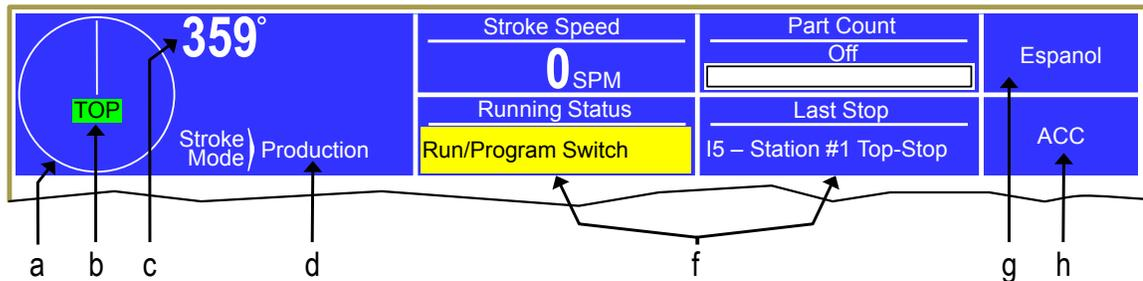

Figure 6: Operator Terminal Top Info Area
The top area of the operator terminal is used to display certain critical information and provide keys that are present regardless of what screen is being displayed. The areas are (refer to Figure 6):
- a) Graphical Display of Crankshaft Angle** For speeds below 70 SPM or so, this will show the crankshaft angle in either a “clock” format (this is the mode shown in Figure 6) or a “traveling dot” format. Press the screen inside the circle to switch between the formats (this can be done at any time, including while the press is in motion). Above 70 SPM, this will change to rotating arrows to indicate crankshaft motion.
Areas inside the white portion of the display are shown with a blue border if that area can be selected. For example, pressing the blue bordered jobs area or the blue bordered counters area will take you to screens related to jobs or counters, respectively. Areas usually displayed along the right side and bottom of the display provide softkeys which may be selected by pressing the field. For example, pressing the “Die Protection” bordered area in Figure 6 will select the die protection screen.